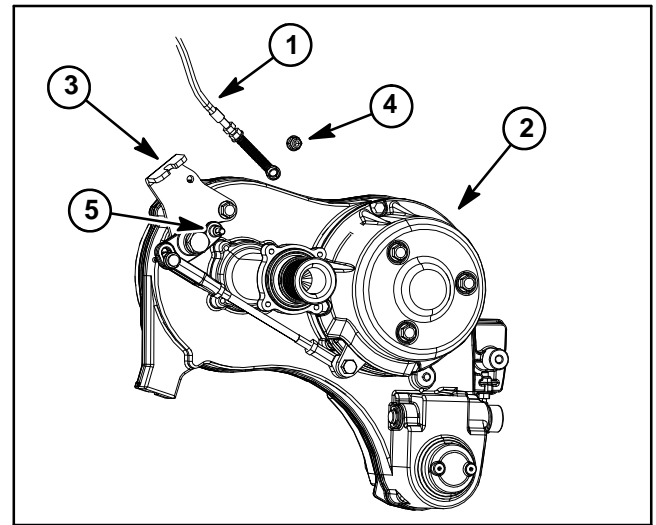

Figure 9
2. Remove traction clutch cable from the transmission (Fig. 9):
2. Route traction clutch cable to the transmission and install cable to transmission (Fig. 9):